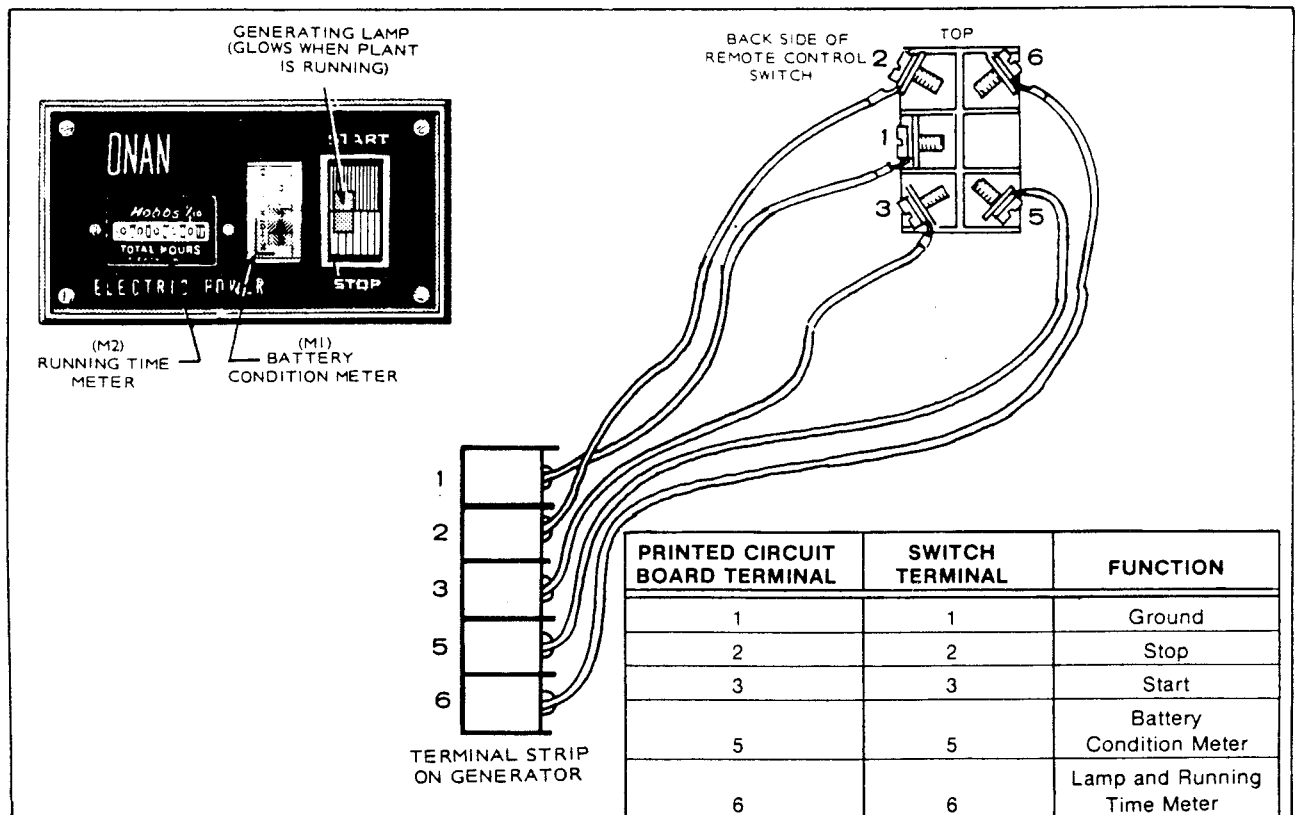

FIGURE 20. CONNECTING DELUXE REMOTE CONTROL (300-0985)
2. Following national and local electrical codes and using five insulated wires of predetermined length (#18 or larger), connect remote control to terminals on generator. Ensure that leads from remote control connect to corresponding terminals on generator terminal board. See Figure 20.